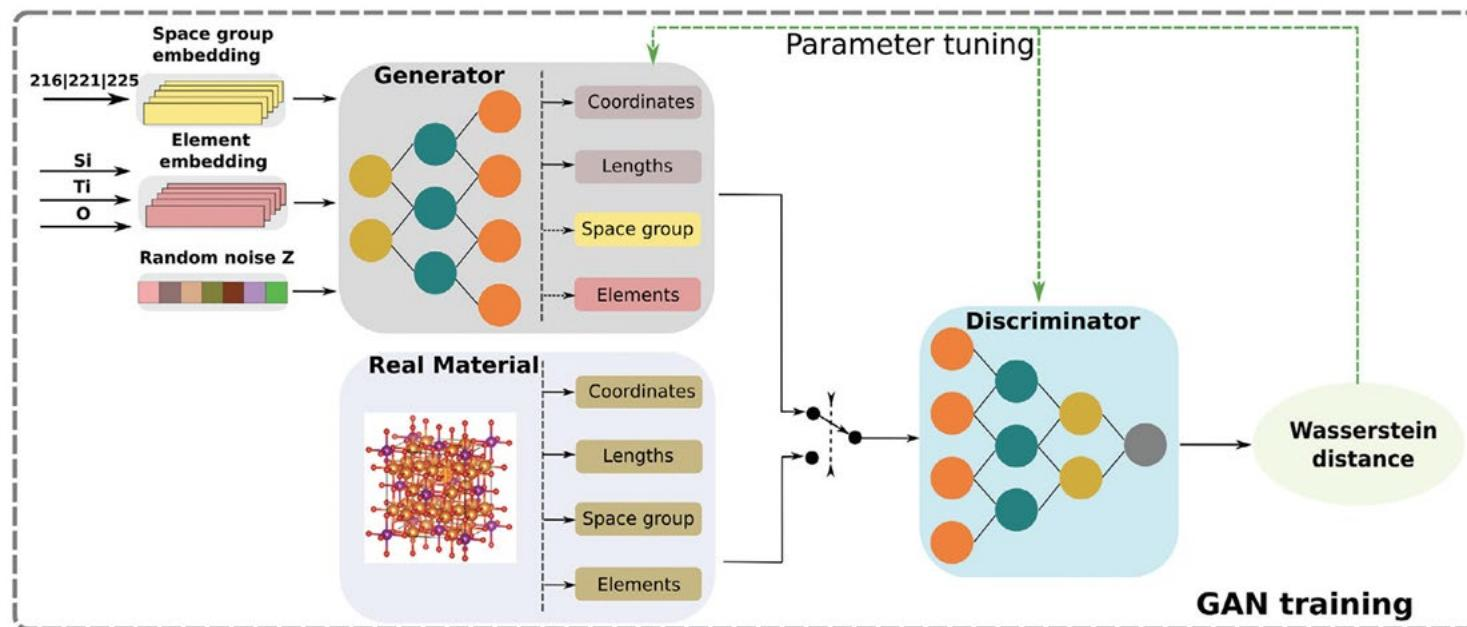

Figure 1. The workflow of our CubicGAN framework.
Fig. 1 Schematic diagram of our Mol-CycleGAN. X and Y are the sets of molecules with selected values of the molecular property (e.g. active/inactive or with high/low values of logP). G and F are the generators. D_X and D_Y are the discriminators
Figure 1: The schema diagram of MATGANIP. The structure data and property data are the input of the generator (G) and the discriminator (D) of the MATGANIP, respectively. In the inner of the G, there are the Conv1, Conv2, and Linear. Both of the Conv1 and Conv2 are the CNN layers, which contains the Conv2d, ReLU, and MaxPool2d layers. Linear is fully connected layers and provides a data-transfer from the G to the LSTM of the D. In the inner of the D. There are LSTM, Linear, ReLU, Linear, and Sigmoid. LSTM represents the long short term memory and enhances the ability to identify of the distribution of the input data. The sigmoid layer provides a Sigmoid function for the D and makes the output of the D to be a probability value. The other three layers, two Linear and ReLU, transform the data of LSTM into the Sigmoid. ReLU provides an active function. Based on the Adam, gradient descent calculation receives the data of the Sigmoid of the D and generates the backpropagation for the G and D of the MATGANIP.
Fig. 1 Architecture of MatGAN for inorganic materials. It is composed of a generator, which maps random vectors into generated samples and a discriminator, which tries to differentiate real materials and generated ones. Detailed configuration parameters are listed in Supplementary Table 1 and Supplementary Fig. 1.